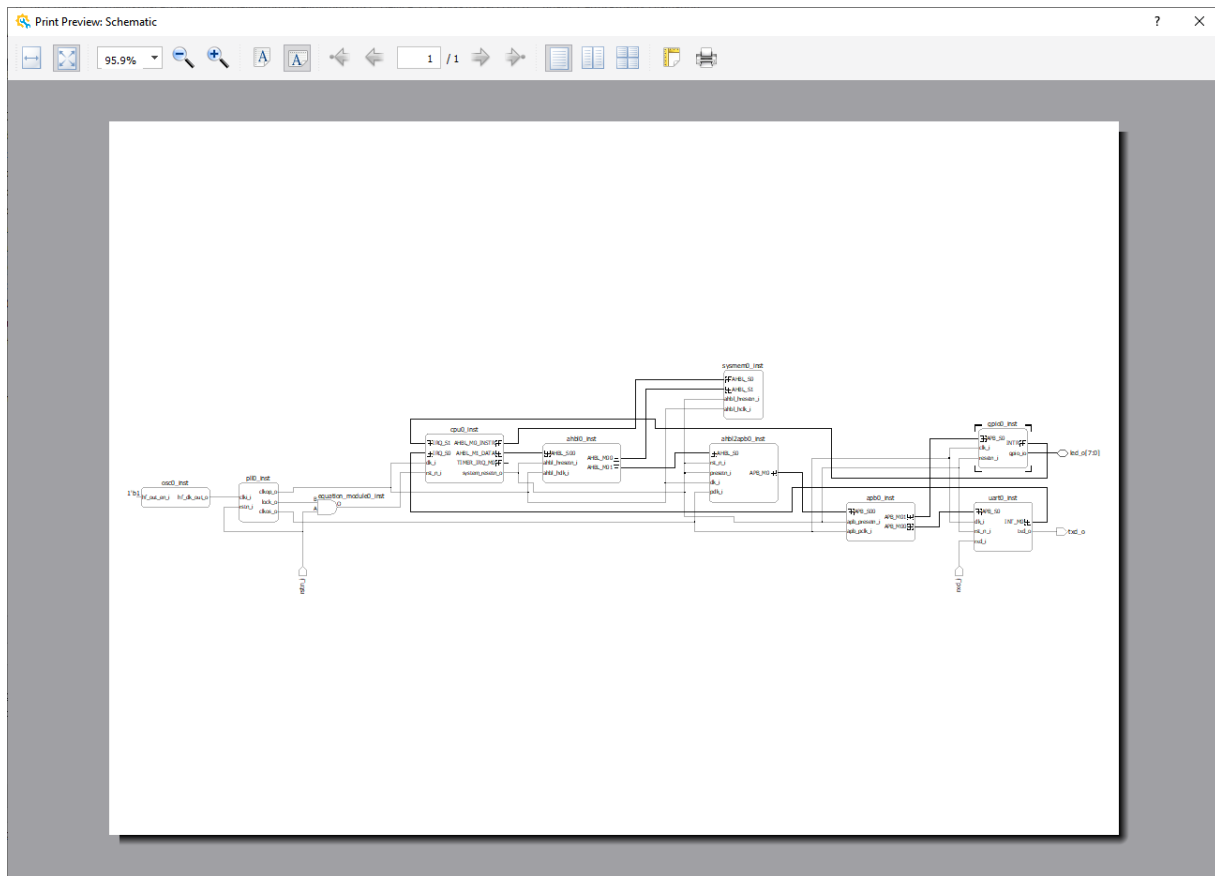

Figure 2.51. Print Preview
- a. Choose **File > Print Preview**. The Print Preview window (Figure 2.51) opens.